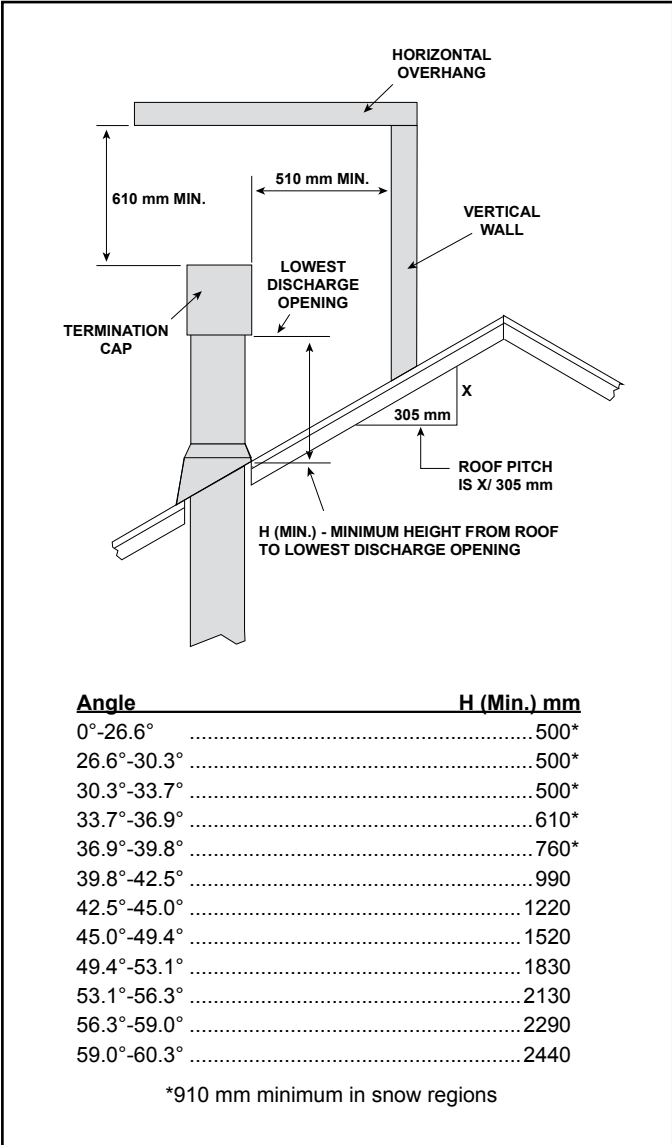

Figure 7.9 Minimum Height From Roof To Lowest Discharge Opening
- See minimum vent heights for various pitched roofs (Figure 7.9) to determine the length of pipe to extend through the roof.